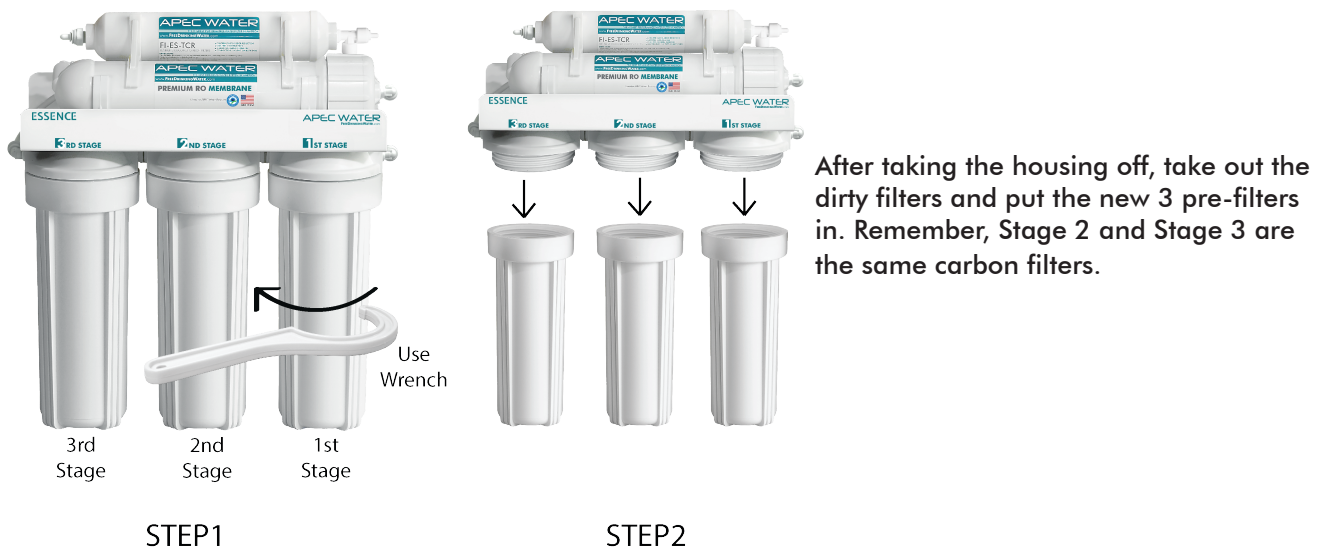

Fig. 14
- 2) **Open housing:** Have the RO standing upright. Slip the plastic wrench onto the #1 housing. Looking down from a top view, you should open the housing turning **clockwise**. If necessary, lay RO down on the floor to get a better leverage. If the housing is too tight, use a hammer and tap on the wrench handle to help turn the wrench (See **Fig.14** on page 19).